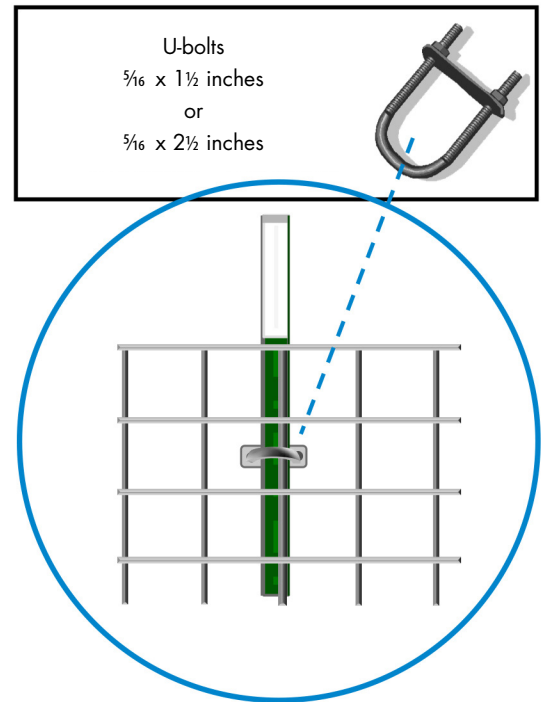

Figure 3. Use two U-bolts per post.
5. Fasten the livestock panels to the T-posts; use two U-bolts per post, one at the bottom of the panel about 12 inches from the ground and one below the top strand of the panel (Figure 3). If using heavy-gauge wire to fasten the livestock panels to the T-posts, use a wire fastener every 1 foot, beginning a few inches from the ground (five per T-post).